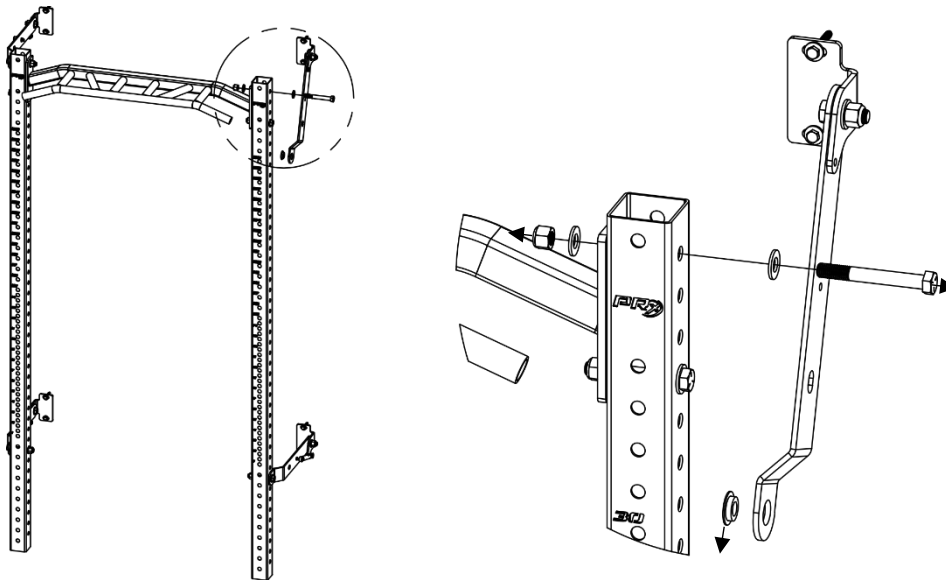

Figure 4: Removing upper 5/8" hardware
1. Using the 15/16" Open Ended Wrench, remove the topmost 5/8" bolt, 5/8" washers, and 5/8" locknut from the rack while supporting the rack upper linkage arm (**Figure 4**).